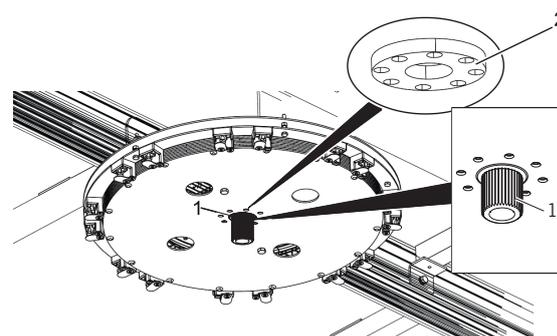
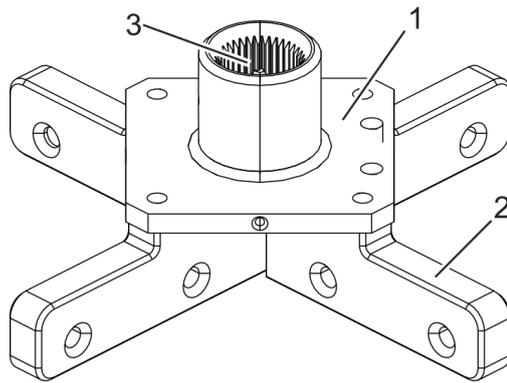

Fig. 87 Mounting washer
Fig. 88 Upper cross fitting with bearing plate
1. Place the mounting washer provided (Fig. 87/2) over the screw heads in the holes on the underside of the operator (Fig. 87/1) in accordance with the following table.
2. Fix bearing plate (Fig. 88/1) on upper cross fitting (Fig. 88/2), as shown in Fig. 88.
3. Suspend upper cross fitting (Fig. 88/2) with at least 2 lashing straps in the ceiling structure under the center of the operator (Fig. 87/1).
4. Degrease the face of the toothed shaft provided (Fig. 87/1) and attach Velcro strip.